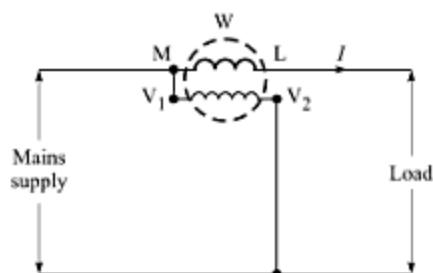

Fig. 1.14 Wattmeter connections.
(2) Wattmeter A wattmeter is an instrument that measures the power (both dc and ac) going to an electrical load. It has two coils—called *current coil* and *potential (or pressure) coil*. The terminals of the current coil are marked as M and L; and those of the pressure coil as V₁ and V₂. The terminals M and V₁ are joined together to make a common terminal. The current coil is connected in series with the load and the pressure coil across the load, as shown in Fig. 1.14.